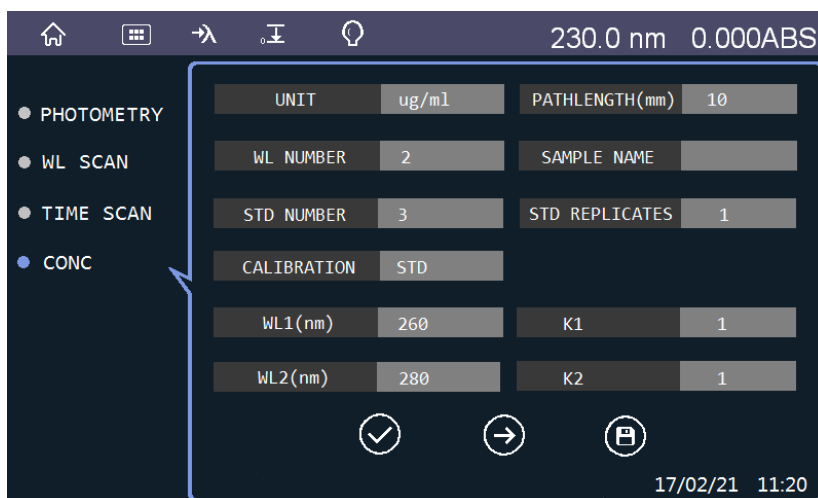

Figure 3-13 Setting interface of measuring concentration at single wavelength
1) Click “Setting” icon to set the parameter, as shown in Figure 3-13.